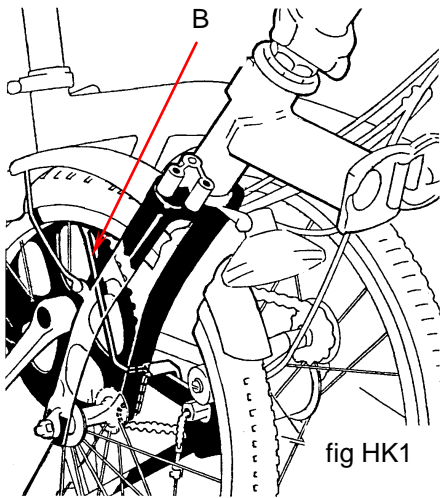
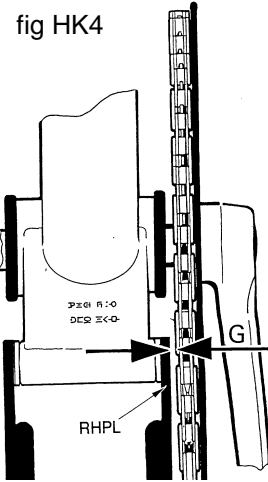

fig HK1
fig HK4
1. The chainwheel mustn't be too far out. Part of the stay, B (fig HK1), acts as a buffer against the chain wheel during folding, and steadies the folded front wheel. If the chainwheel lies too far out (the gap G (fig HK4) between inside of chain and hinge plate RHPL when the bike is parked, should be 0 - 3mm, not more), then the hook will be a tight fit over the chainstay CHS, and may stick when trying to unfold the front wheel.